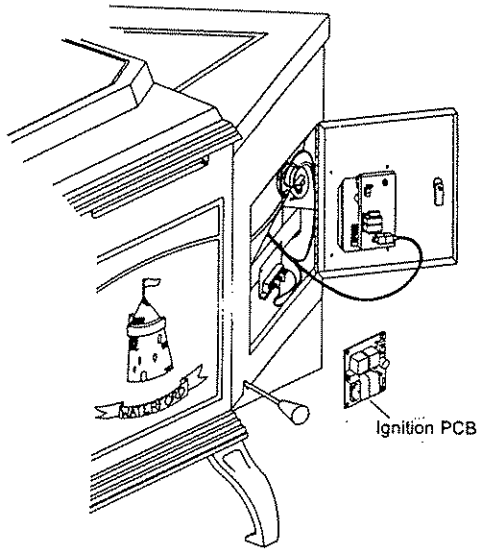

Fig. 30
7. Fit the igniter system circuit board to the bracket plate located inside the right hand side door on the base panel using the four push on tabs supplied with the igniter. (See Fig. 30)